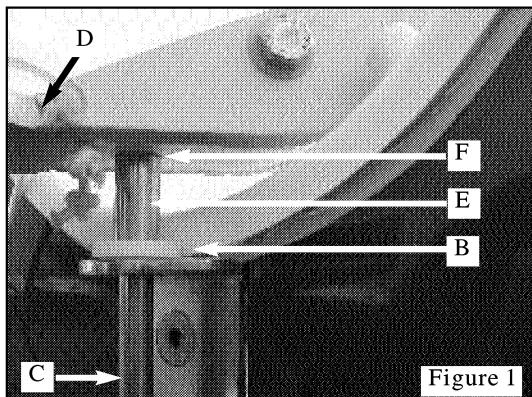

Figure 1
- Position a nylon washer (ref. F) and then slip the axle into the upper boring of the sleeve (ref. D) (Figure 1).